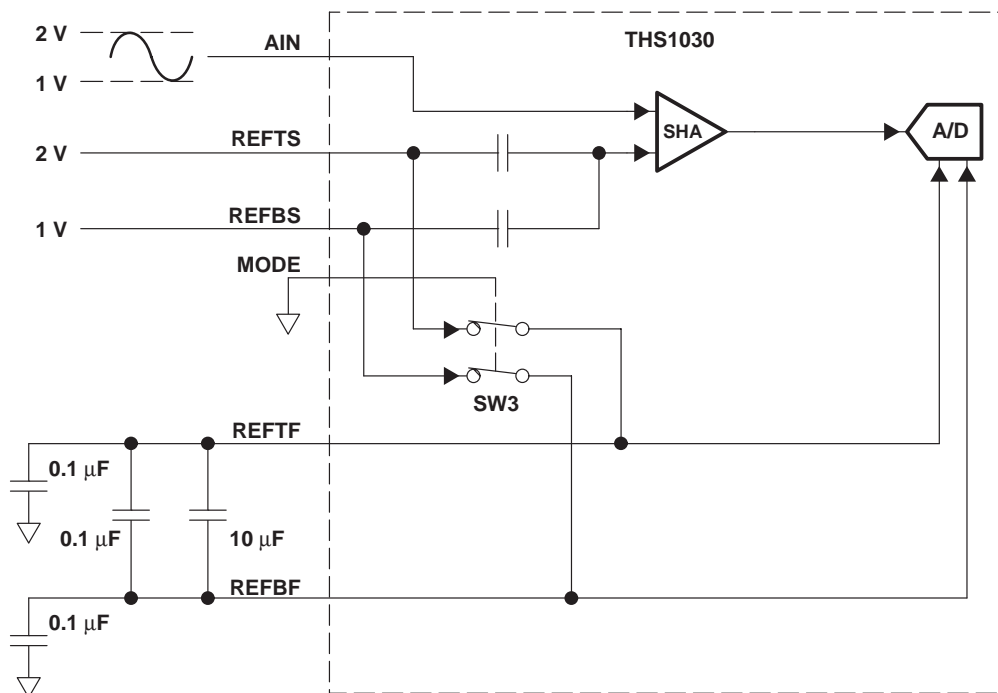
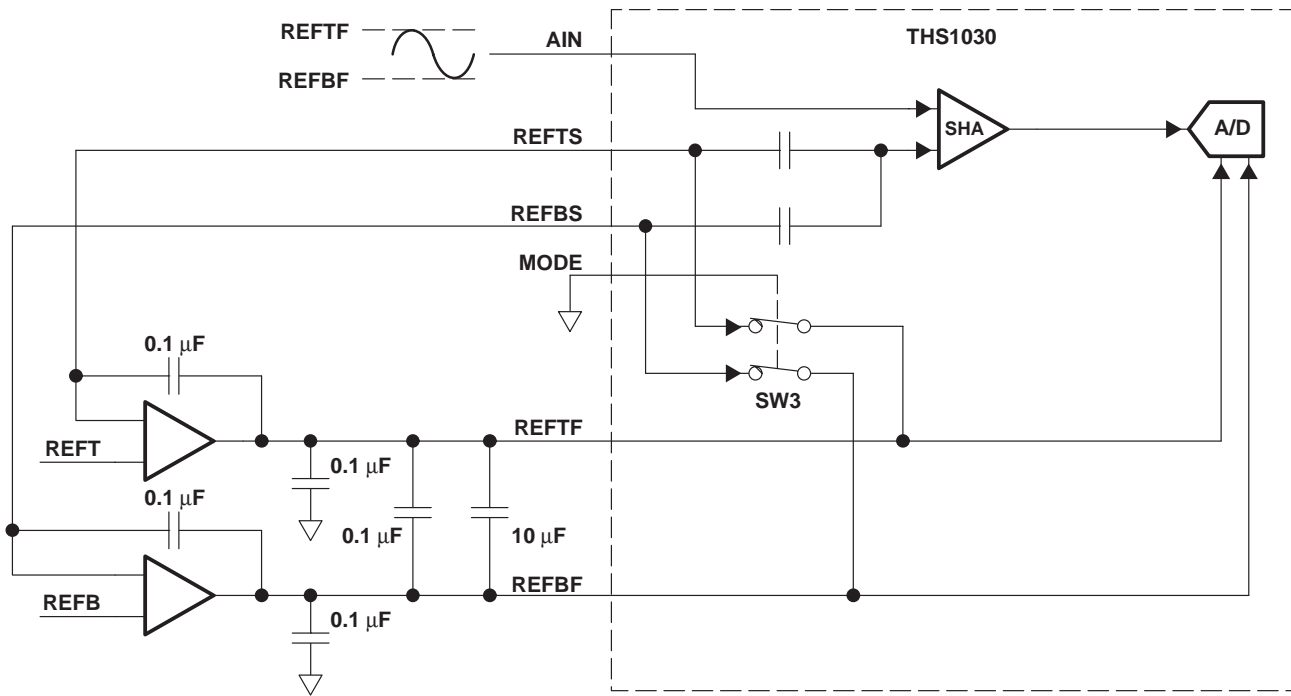

Figure 14. External ADC Reference Mode
Figure 15. Kelvin Connection With External ADC Reference Mode
- **External ADC Reference Mode:** A single-ended analog input is accepted at the AIN pin where the input signal is bounded by the voltages on the REFTS and REFBS pins. Figure 14 shows an example of applying external reference to REFTS and REFBS pins in which REFTS is connected to the low-impedance 2-V source and REFBS is connected to the low-impedance 2-V source. REFTS and REFBS may be driven to any voltage within the supply as long as the difference  $(REFTS - REFBS)$  is between 1 V and 2 V as specified in Table 2. Figure 15 shows an example of an external reference using a Kelvin connection to eliminate line voltage drop errors.